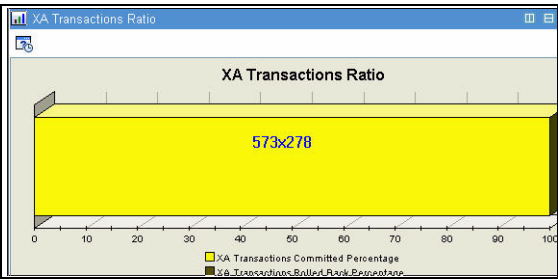

Figure 7-13 XA transaction ratio
- 2. We did not get any abends from the CICS point of view, so we see 100% of the XA transactions committed (see Figure 7-13).